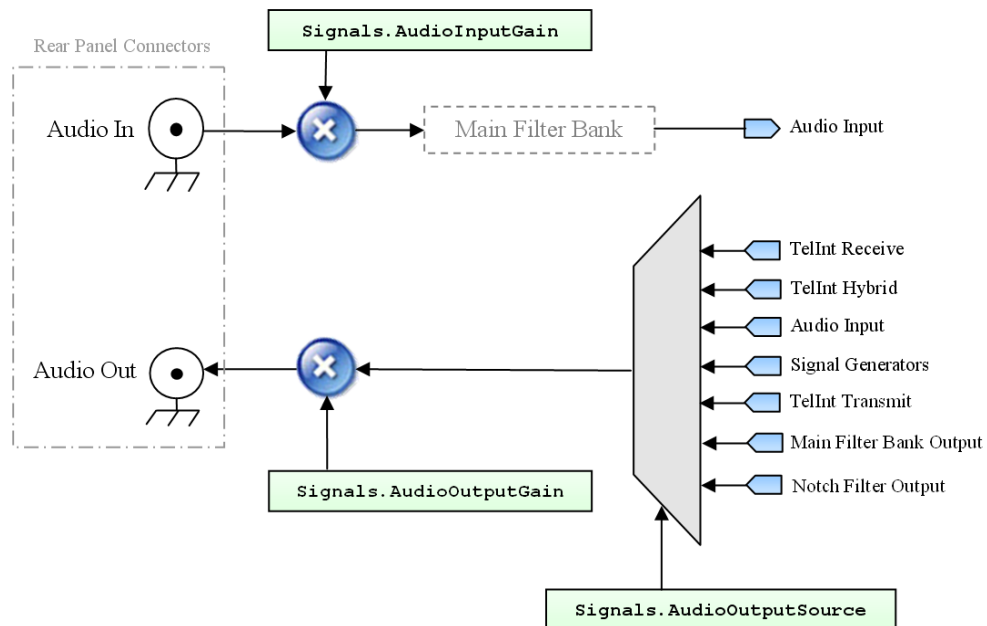

Figure 32 AI-5620 Audio Input/Output Routing Diagram
- Audio input (Figure 32)
The AI-5620 is also equipped with two BNC connectors on the rear panel which can be used as a signal source or sink for AC signals within the instrument. The signal routing for these connectors is illustrated in Figure 32.
- **Filtering Audio Input** – this settings configures the main filter bank to filter the signals applied to the audio input connector (as shown in Figure 32)